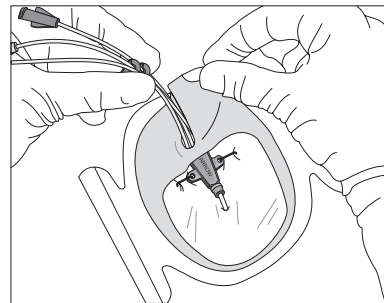

Figure 8
- Overlap softcloth tabs under catheter to form a tight seal around catheter hub and lumens (refer to Figure 8).